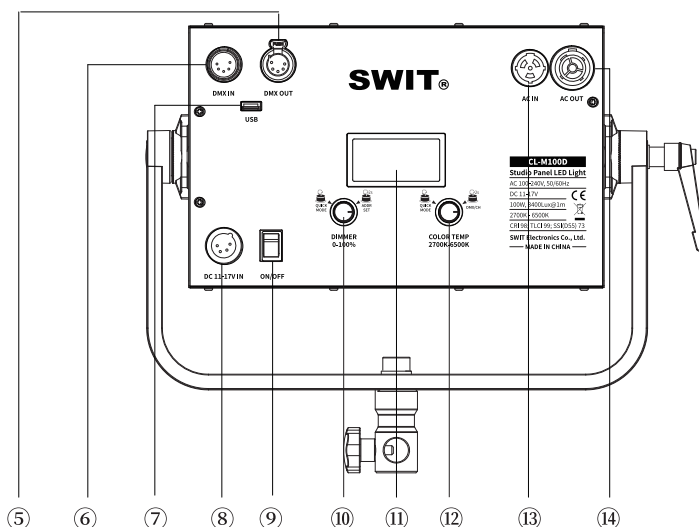
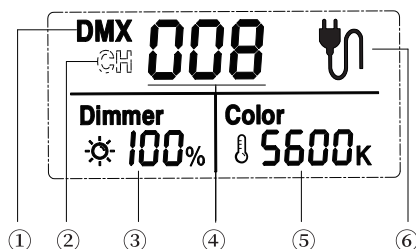

Fig.4 CL-M100D Back View
Fig.5 LCD Information
This product supports two brightness/color temperature adjustment modes: normal adjustment mode, fast adjustment mode. Switch according to the brightness/color temperature adjustment knob (Figure 4 ⑩/ unkind) users can quickly set brightness and color temperature by combining these two adjustment modes according to their needs.
Hold the brightness adjustment knob (As shown in Figure 4 ⑩) for about 2 seconds to enter the communication address setting interface. The communication address setting range is 001-512.
The LCD (Figure 5 ④) blinks, indicating that the current position is selected. Rotate the brightness adjustment knob (Figure 4 ⑩) to set the current position and press the brightness adjustment Knob (Figure 4 ⑩) to determine the current bit Settings and
enter the next bit Settings. When the last bit Settings are completed, press the brightness adjustment knob (Figure 4 ⑩) or wait for about 5 seconds to exit the communication address Settings.
Connect the lamps through DMX, and press the color temperature adjustment knob (FIG. 4) for about 2s to complete the setting of the communication control mode of the lamps.
"DMX" is displayed in the upper left corner of LCD (Fig. 5 ①), indicating that the current communication control mode supported by the lamp is DMX communication mode. In this mode, the DMX signal output device is connected to the lamp network, the communication address is set, and it can be used normally.
"CH" is displayed in the upper left corner of LCD (Figure 5 ②), indicating that the communication control mode currently supported by the lamp is mutual control mode. In this mode, the target lamps are set to the same communication address and can be used normally without distinguishing the master and slave machines.